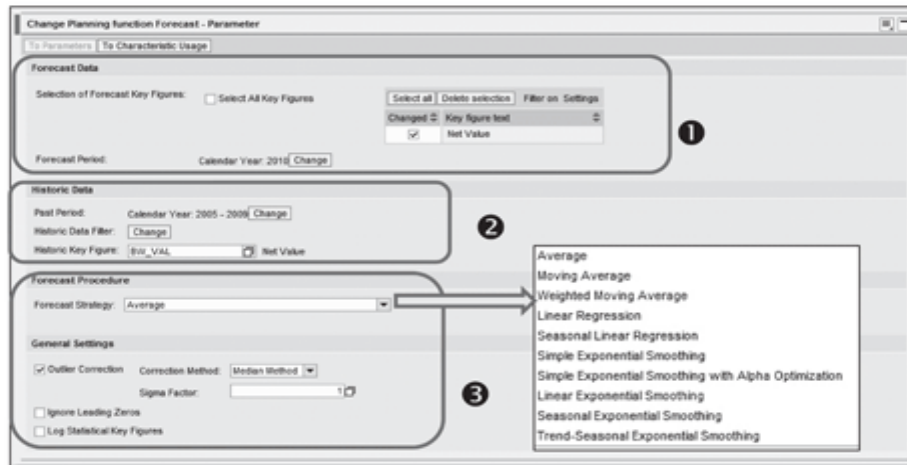

Figure 12.59 Forecasting Planning Function
Forecasting is one of the advanced planning functions available in Integrated Planning. This planning function uses different statistical forecasting methods to derive the plan values based on already-existing data (Figure 12.59).
To define a Forecasting planning function, you first have to specify the key figure and the period for which you want to generate the forecast data (1 of Figure 12.59). The next step is to define the set of historical data that should be used to derive the forecast values (2). For this, you have to set the data range and selection for the historical data, and also the key figure to which should be referred.